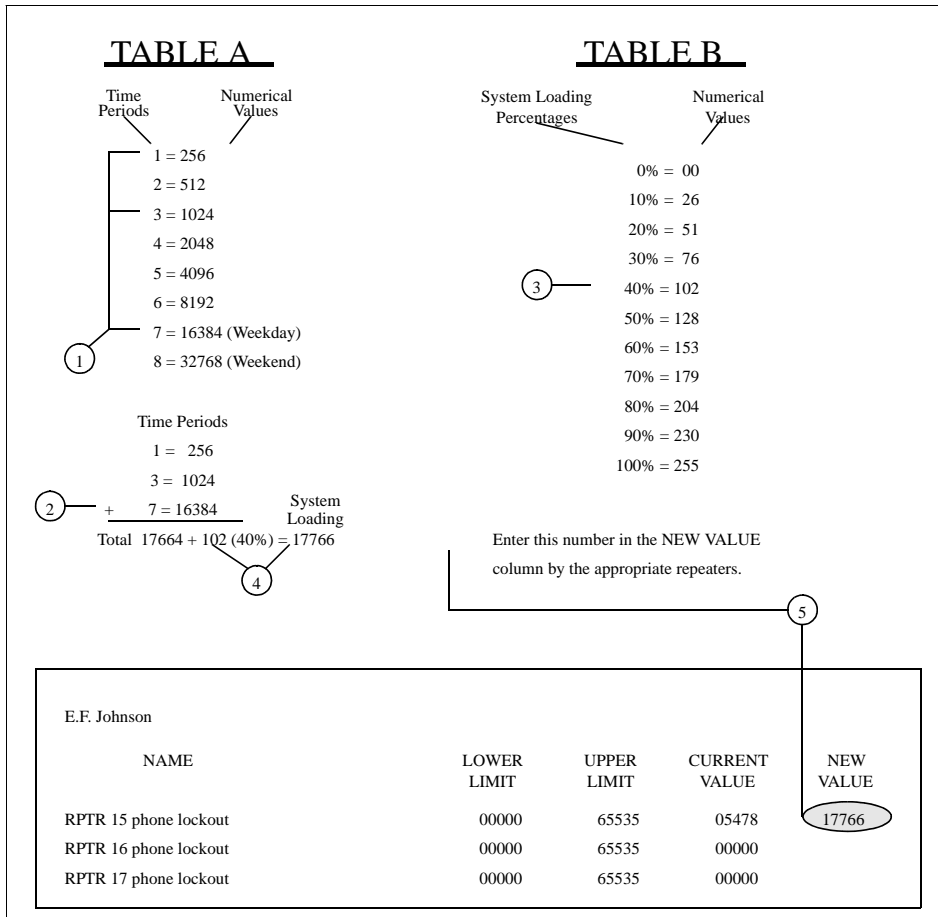

Figure 6-17 PHONE LOCKOUT EQUATION AND PARAMETERS
To simplify the process, each of the Time Periods and System Loading percentages have been assigned a numerical value, that is used in the programming of each repeater's lockout time. An equation and a list of the parameters and their corresponding values are shown in Figure 6-17.
5. Enter this "total" (17766) into the "New Value" column next to the repeater numbers selected in Screen 6 (see Figure 6-17).
1. Select from Table A the Time Periods the interconnect lockout is active. Numbers 7 & 8 designate the Time Periods as "weekdays" or "weekends" (see Figure 6-17).